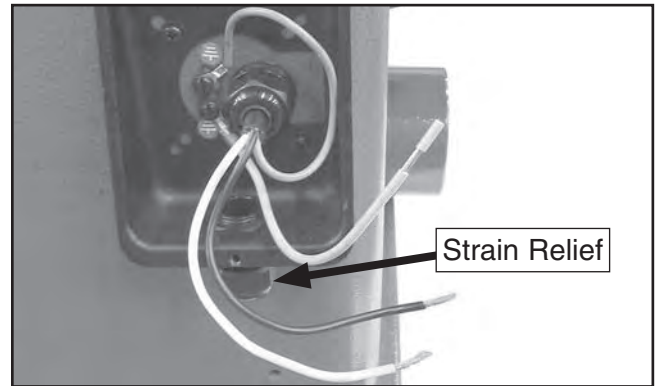

Figure 33. Power connection junction box.
2. Loosen the strain relief on the bottom of the junction box shown in **Figure 33**, then insert the incoming power wires into the junction box.